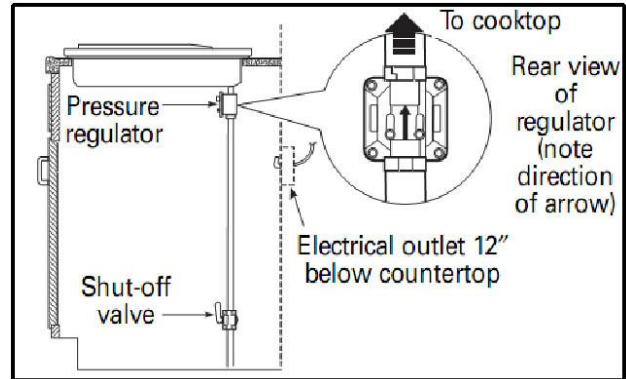

Figure 13
- If the cooktop is converted for **liquid petroleum (LP) gas**, the LP gas supply is required to provide a minimum of 10" to a maximum of 14" water column to the cooktop regulator.
- **⚠** The gas supply line must be equipped with an approved manual shut-off valve. In an easily accessible location in the same room as the cooktop. Do not block access to the shutoff valve. Be sure you know how and where to shut off the gas supply to the cooktop. Install the electrical outlet 12" below the countertop (see Figure 13).